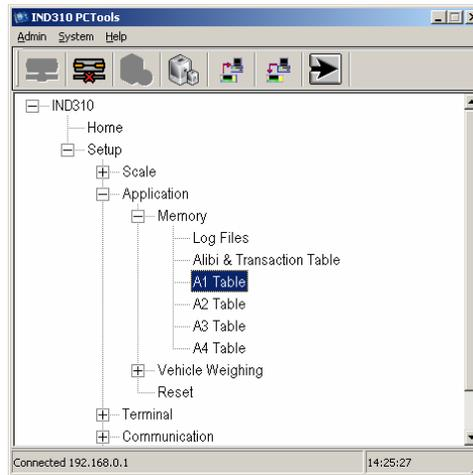

Figure B-13: A-1 Table Selected in the Menu Tree
1. Follow the menu tree structure to the desired data table. Figure B-13 shows an example selection of the A1 Table.